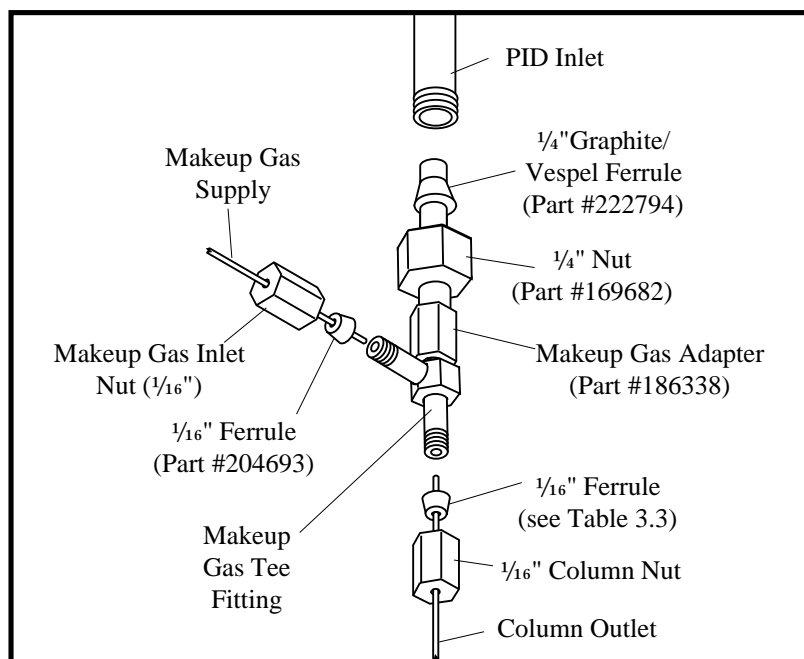

Figure 3.1. PID Makeup Gas Adapter
1. Remove the PID makeup gas adapter (Part #186338) from its packaging and the $\frac{1}{4}$ " nut (Part #169682) and $\frac{1}{4}$ " ferrule (Part #222794) from the PID kit (see Figure 3.1).
4. Slide the makeup gas adapter into the PID inlet as far as it will go (see Figure 3.1).